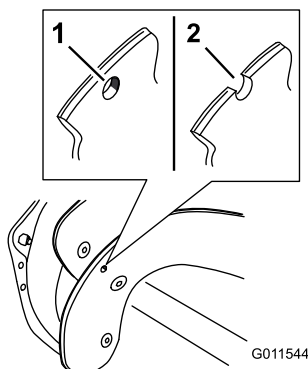

**Figure 29**
3. Place an oil drain pan under the oil drain plug, remove the oil drain plug, and tip the machine backward and drain the used oil in the oil drain pan (Figure 29).